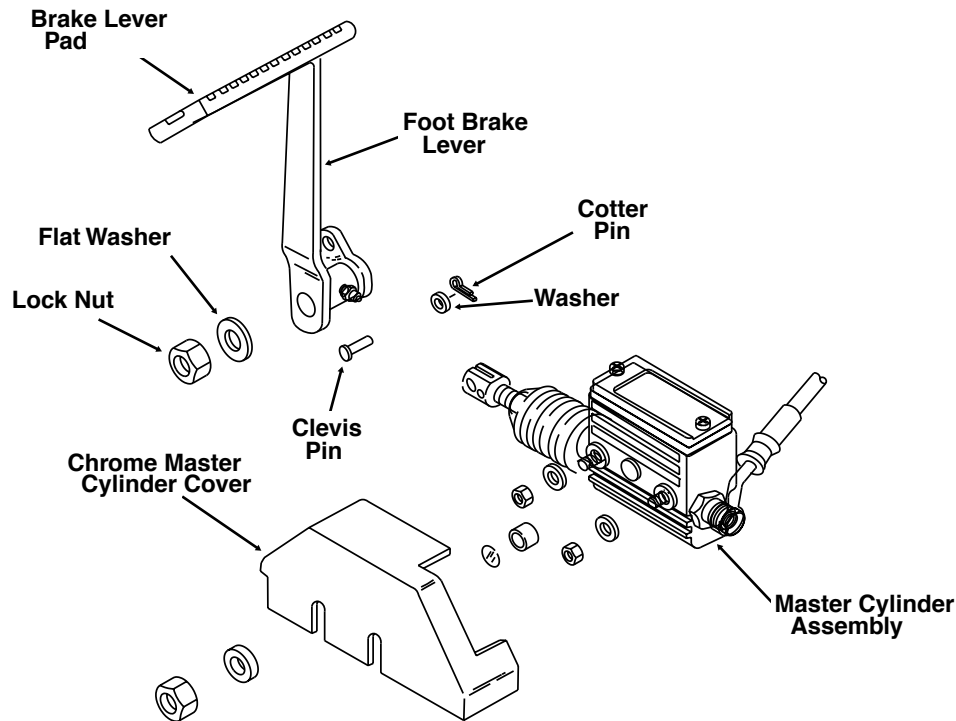

Figure 2. Rear Foot Brake Lever - FL Softail Models
2. See Figure 2. Loosen two locknuts and washers and remove chrome master cylinder cover.